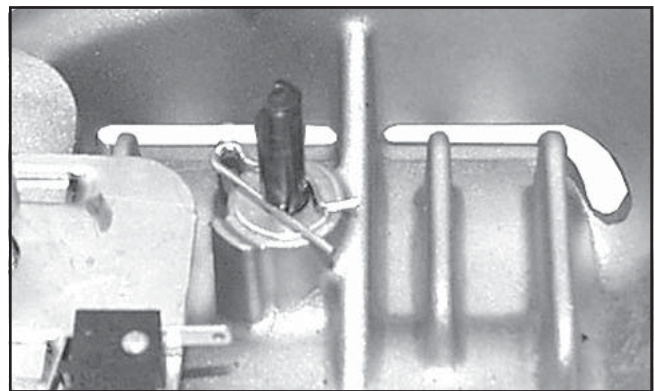

Figure 9-57. Removing Governor Cross Shaft Hitch Pin.
3. Remove the hitch pin and washer from the governor cross shaft. See Figure 9-57.